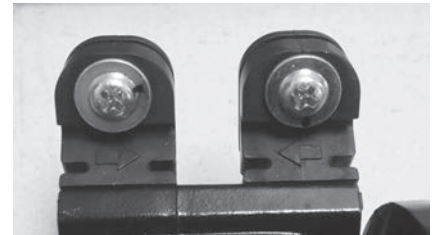

Figure 171 - Water pump gasket boot orientation
- 25** Remove the four (4) gasket boots with screws from the old water pump by sliding them out of the brackets. Note orientation of gasket boots for proper installation to new water pump. See Figure 171.